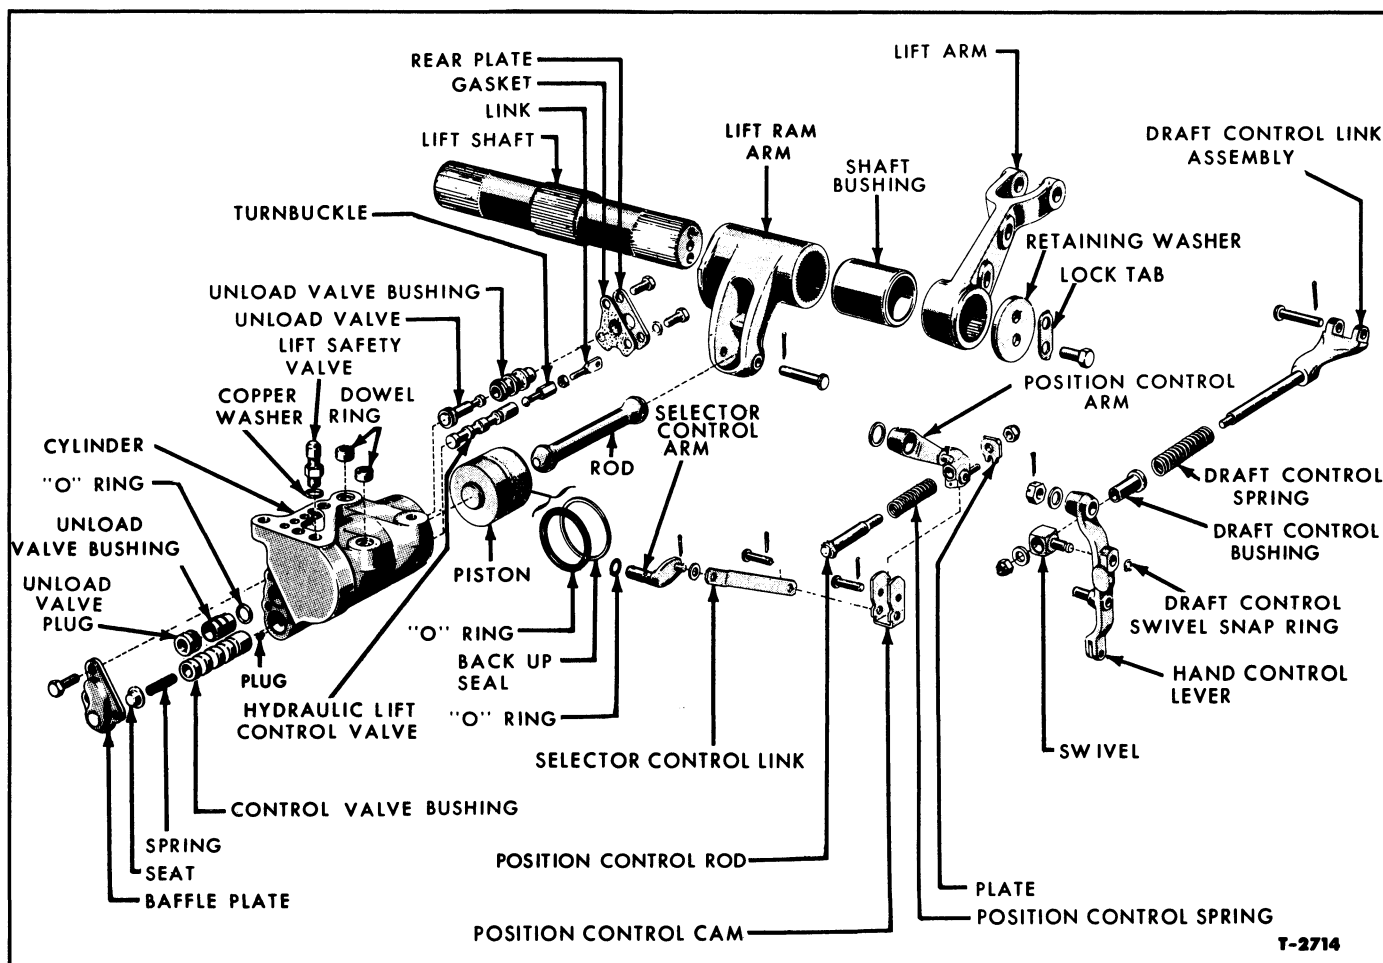

Figure 7—Lift Cylinder Assembly—Disassembled
16. Straighten the lock washer tabs, remove the retaining cap screws and washers and remove the right and left lift arms from the main lift shaft, Figure 7.
The lift cover is shown disassembled in Figure 6. The lift cylinder assembly and the linkage and lift shaft assembly are shown disassembled in Figure 7.
7. Attach the draft control swivel, bushing and spring to the draft control link assembly with the flat washer and lock nut. Be sure the nut is pulled up tight against the flat washer and shoulder on the link rod, Figure 7.
10. Attach the selector control link to the position control arm with the clevis pin and cotter pin, Figure 7.
15. Install the draft control spring and draft control bushing on the draft control link, Figure 7.
16. Install the hand control lever assembly on the lift control lever shaft, then slide the swivel over the draft control bushing on the draft control link. Install the washer, nut, and cotter pin which retain the hand control lever to the control shaft, then loosely replace the washer and nut which retain the draft control bushing on the draft control rod, Figure 7.
20. Install the piston rod and secure it to the ram arm with a clevis pin and cotter pin, Figure 7.
22. Install the control valve turnbuckle and secure it with a clevis pin and cotter pin, Figure 7.